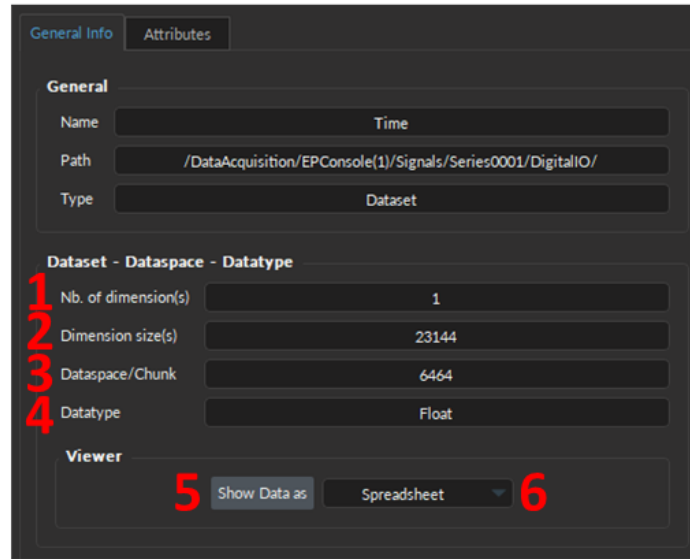
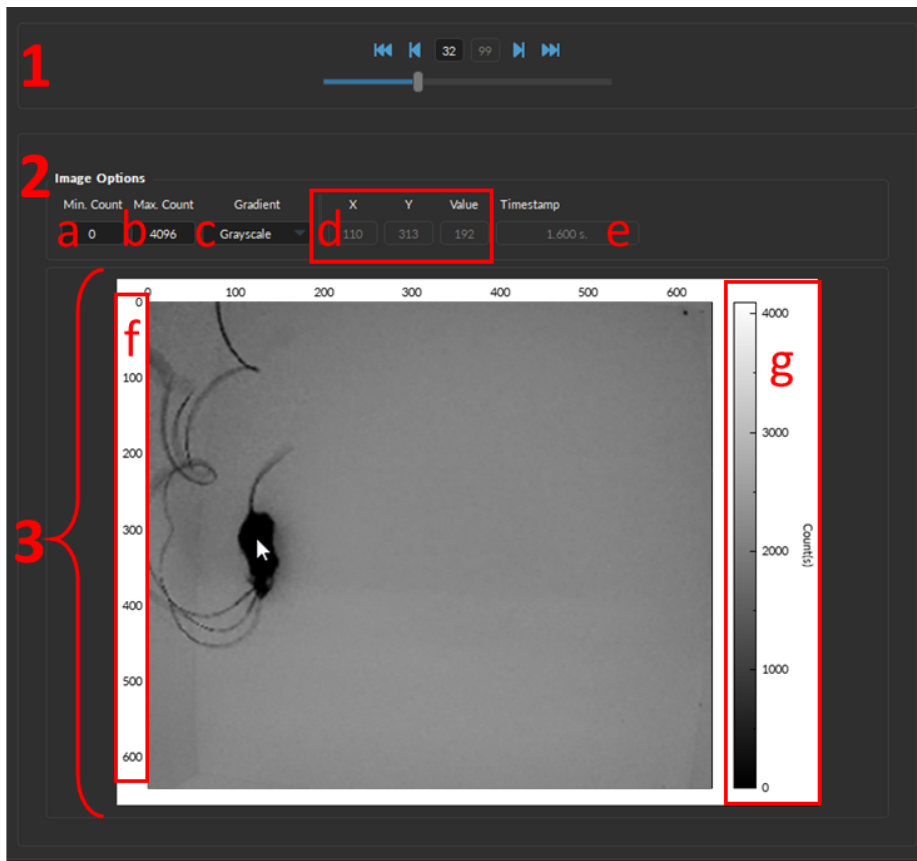

Figure 4.41: General Info tab, Dataset Viewer
Figure 4.43: Dataset Viewer: image data
To view the data stored within a **Dataset**, select it from the **File Manager** and click on the **General Info** tab (Fig. 4.25). In addition to having a **General** box (Section 4.3.1), **Dataset** have a **Dataset** box (Fig. 4.41), which displays the parameters and the button required to view either a subset or the entire raw data.
The following elements are contained within the **Dataset Info** box (Fig. 4.41):
1. The **Number of dimension(s)** (Fig. 4.41, 1) describes the number of dimensions that form the dataset. A *vector* has a dimension of 1, *images Stack* and *video* have a dimension of 3.
2. The **Dimension size(s)** (Fig. 4.41, 2) describes the length of the dataset (i.e. the number of rows) for *vector* data. For *images Stack* and *video* it is the width x height x # frames.
3. The **Dataspace/Chunk** (Fig. 4.41, 3) is the value used to reduce the data when displaying it in the **Data Viewer** (Fig. 4.43) using the **Spreadsheet Chunked** setting (Fig. 4.41, 6). This setting speeds up the data loading process, which is particularly useful for quickly checking the values. The software automatically generates the **Dataspace/Chunk** value based on the dataset's size.
4. The **Datatype** (Fig. 4.41, 4) displays what kind of numerical value is used within the dataset (e.g. float, integers, etc.). The *float* type is the most common of *Doric Lenses* acquisition devices. *Integers* are used for images and videos.
5. The **Show Data as** button (Fig. 4.41, 5) opens the **Data Viewer** window (Fig. 4.43) for a quick view of the selected dataset. Section 4.5.2 describes the features of the window.
6. The **Spreadsheet** drop-down list (Fig. 4.41, 6) allows users to select the viewing mode, including:
- *Image* - displays the raw images in the **Dataset Viewer** window (Fig. 4.43).
For *vector* data (Fig. 4.42), a column vector with the number of rows matching either the **Dimension size(s)** (Fig. 4.41, 2) or the **Dataspace/Chunk** (Fig. 4.41, 3) parameter. The column header will always be the **Name** (Fig. 4.26, 1) of the **Dataset**. Note the **Frame Control** box (Fig. 4.43, 1) is inactive for data with a **Number of Dimension(s)** lower than three.
For *image* data (Fig. 4.43):
- a) The **Min. Count** (Fig. 4.43, 2a) sets the minimum pixel value of the gradient that will be displayed in the image. Thus, all pixel values lower than the **Min. Count** will be displayed as the minimum pixel value color.
- b) The **Max. Count** (Fig. 4.43, 2b) sets the maximum pixel value of the gradient that will be displayed in the image. Thus, all pixel values higher than the **Max. Count** will be displayed as the maximum pixel value color.
- c) The **Gradient** (Fig. 4.43, 2c) sets the type of color gradient the pixel values will represent in the image below. Twelve gradient options are available, including *Grayscale*, *Thermal*, and *Spectrum* to name a few.
- d) The **Cursor Coordinates** (Fig. 4.43, 2d) displays the x and y coordinates, and the pixel value of the cursor within the image (Fig. 4.43, 3 - arrow).
- e) The **Timestamp** text-box (Fig. 4.43, 2e) displays the time associated with the image (Fig. 4.43, 3). Changing the **Current Frame Number** using the **Frame Controls** (Fig. 4.43, 1) will automatically change the value of the **Timestamp**.
- f) The **X & Y Axes** of the image (Fig. 4.43, 3f) displays the scale and resolution of the image. The axes begin at 0 and end at the value of the image pixel width and height (respectively) corresponding to the **Dimension size(s)**. The x and y coordinate of the cursor within the image will always be within this range of values (Fig. 4.43, 2d).
- g) The **Gradient bar** (Fig. 4.43, 3g) displays the color associated with the pixel value (Count(s)).